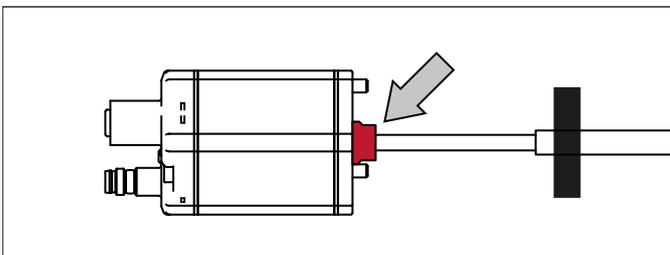

Fig. 32: Remove sealing before inserting into sensor rod HD/HL/HP
- The base unit is mounted by means of three screws. It is the only part that needs to be replaced if servicing is required, i.e. the hydraulic circuit remains closed. Before inserting the base unit into the sensor rod HD/HL/HP, remove the red sealing at the transition between the sensor electronics housing and the flexible sensor rod (Fig. 32). For more information see chapter “4.11.1 Replacement of base unit on the RH5/RF5/RFV model” on page 57.